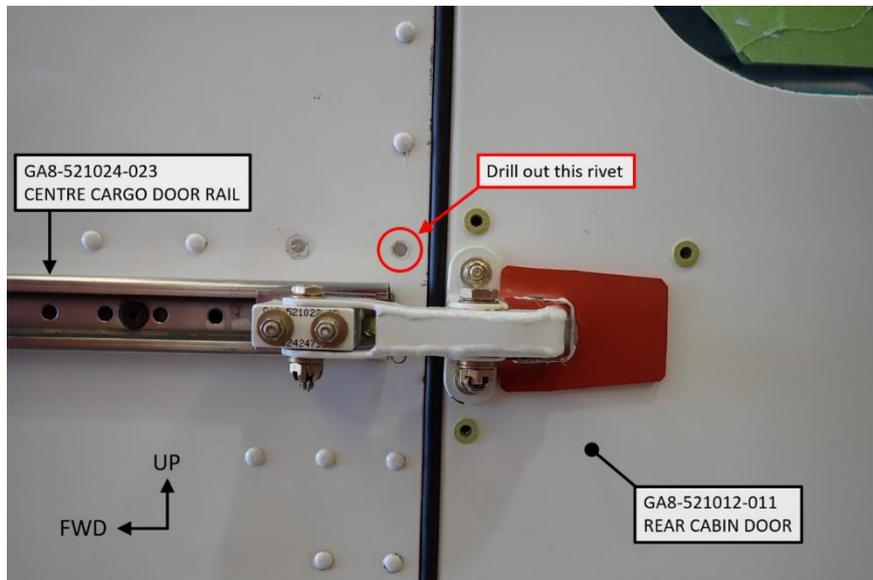

Figure 19: Location of rivet to drill out. View looking at the exterior surface of the aircraft's port side fuselage wall.
4. Drill out the NAS1097AD4 countersunk rivet (MS20470AD4 universal rivet for early aircraft serial numbers), identified by the red circle in Figure 19, and enlarge the hole to a diameter between 0.165" (4.2mm) and 0.169" (4.3mm).